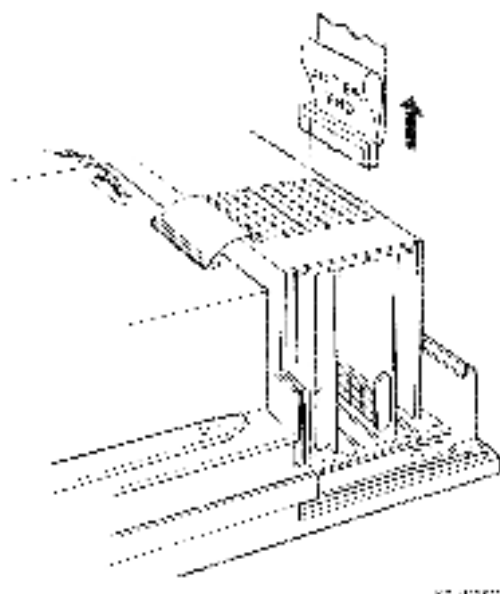

Figure 2-79 Unplugging Internal SLC Option Cable
4. Unplug the SLC option cable from the SLC option module (Figure 2-79).